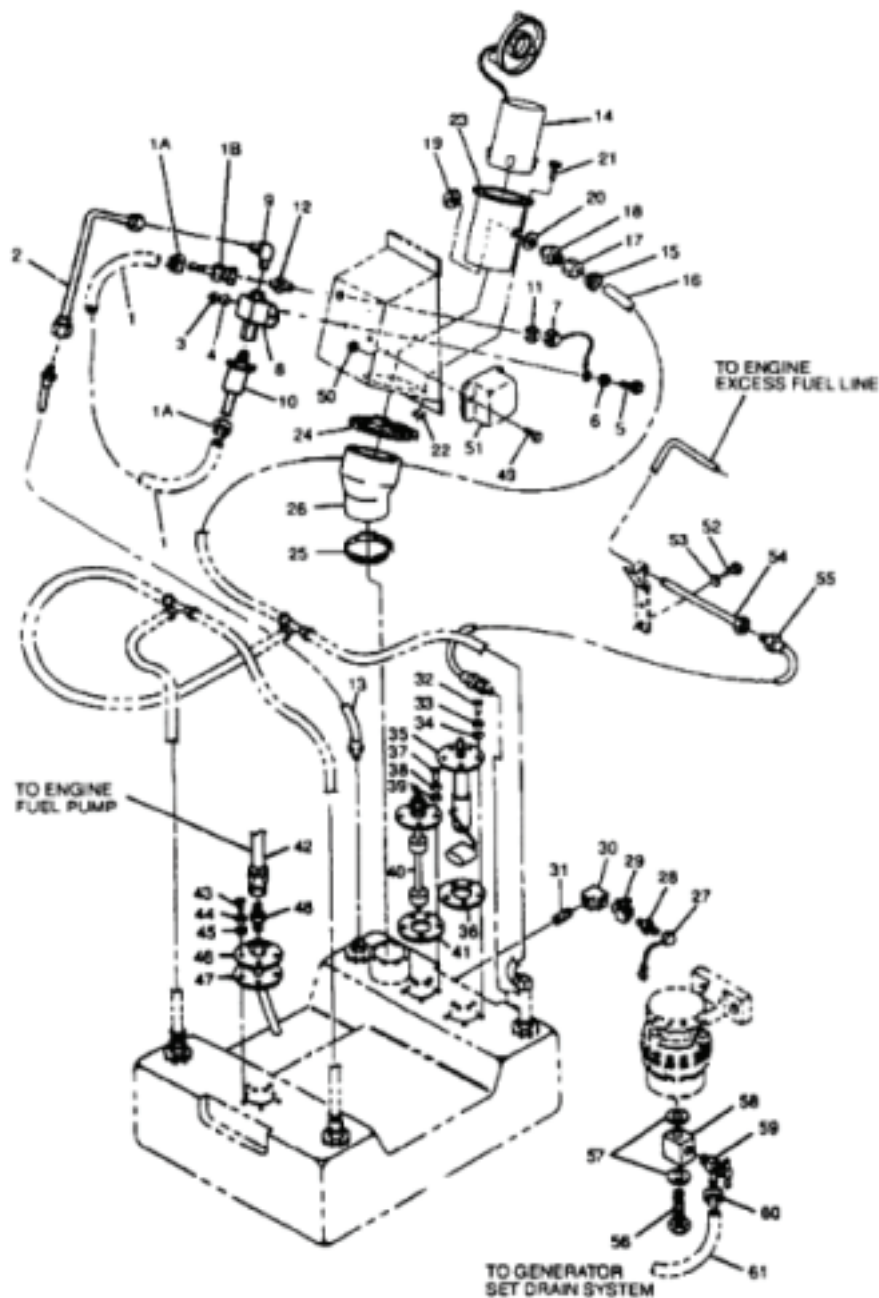

Figure 1. Fuel Tank Filler Neck and Low Pressure Fuel System.
4. Disconnect auxiliary fuel pump outlet line (Figure 1, Item 13) at fuel tank fitting and place disconnected end in measuring container.
8. Connect auxiliary fuel pump outlet line (13) at fuel tank fitting.
3. Tag and disconnect auxiliary fuel pump (Figure 1, Item 8) electrical connector.
4. Loosen clamps (1A). Disconnect filter (10) and remove adapter fitting (1B) from filler neck panel fitting (12). Remove adapter fitting (1B) from fuel inlet hose (1). Remove filter (10) from auxiliary fuel pump (8). Cap fuel inlet hose (1).
5. Disconnect auxiliary fuel outlet line (2) from auxiliary fuel pump (8).
6. Remove nuts (3), lockwashers (4), bolts (5), washers (6), cap and chain assembly (7), and auxiliary fuel pump (8). Discard lockwashers (4).
7. If necessary, remove fitting (9) from auxiliary fuel pump (8). Some auxiliary fuel pumps are supplied with integral 90-degree outlet port fitting.
8. If necessary, remove nut (11) and fitting (12) from fuel filler panel.
1. If removed, install fitting (Figure 1, Item 12) and nut (11) in fuel filler panel.
2. If necessary, install fitting (9) on auxiliary fuel pump (8).
3. Install auxiliary fuel pump (8) and cap and chain assembly (7) in generator set with bolts (5), washers (6), new lockwashers (4), and nuts (3).
4. Connect auxiliary fuel outlet line (2) to auxiliary fuel pump (8).
5. Remove caps from fuel inlet hose (1). Install filter (10) on auxiliary fuel pump (8). Install adapter fitting (1B) on
WP 0087, Figure 1, Item: 26 & 27
3. Remove cap (WP 0087, Figure 1, Item 27), open fuel drain valve (29), and drain fuel into suitable container.
5. Remove filler neck cap and tube assembly (14).
6. Loosen clamp (15) and disconnect hose (16) from adapter (17).
7. Remove adapter (17) from fitting (18).
8. Remove nut (19), washer (20), and fitting (18) from side of filler neck (23).
9. Remove bolts (21) and nuts (22) securing filler neck (23) to generator set housing.
10. Remove clamps (24 and 25), hose (26), and filler neck (23) from fuel tank opening. Cover fuel tank opening.
3. Inspect hose (WP 0087, Figure 1, Item 26) for cracking, wear, or other damage.
4. Inspect filler neck (23) for corrosion, cracking, or other damage.
5. Inspect filler neck cap and tube assembly (14) for damage.
1. Position hose (WP 0087, Figure 1, Item 26), clamps (24 and 25), and filler neck (23) on fuel tank.
2. Install bolts (21) and nuts (22) securing filler neck (23) to generator set housing.
4. Install fitting (18), washer (20), and nut (19) inside of filler neck (23).
5. Install adapter (17) on fitting (18) and connect hose (16) to adapter (17) with clamp (15).
6. Install filler neck cap and tube assembly (14).
7. Close fuel drain valve (29), install cap (27), and service fuel tank. Refer to WP 0006, Table 2 for proper fuel.